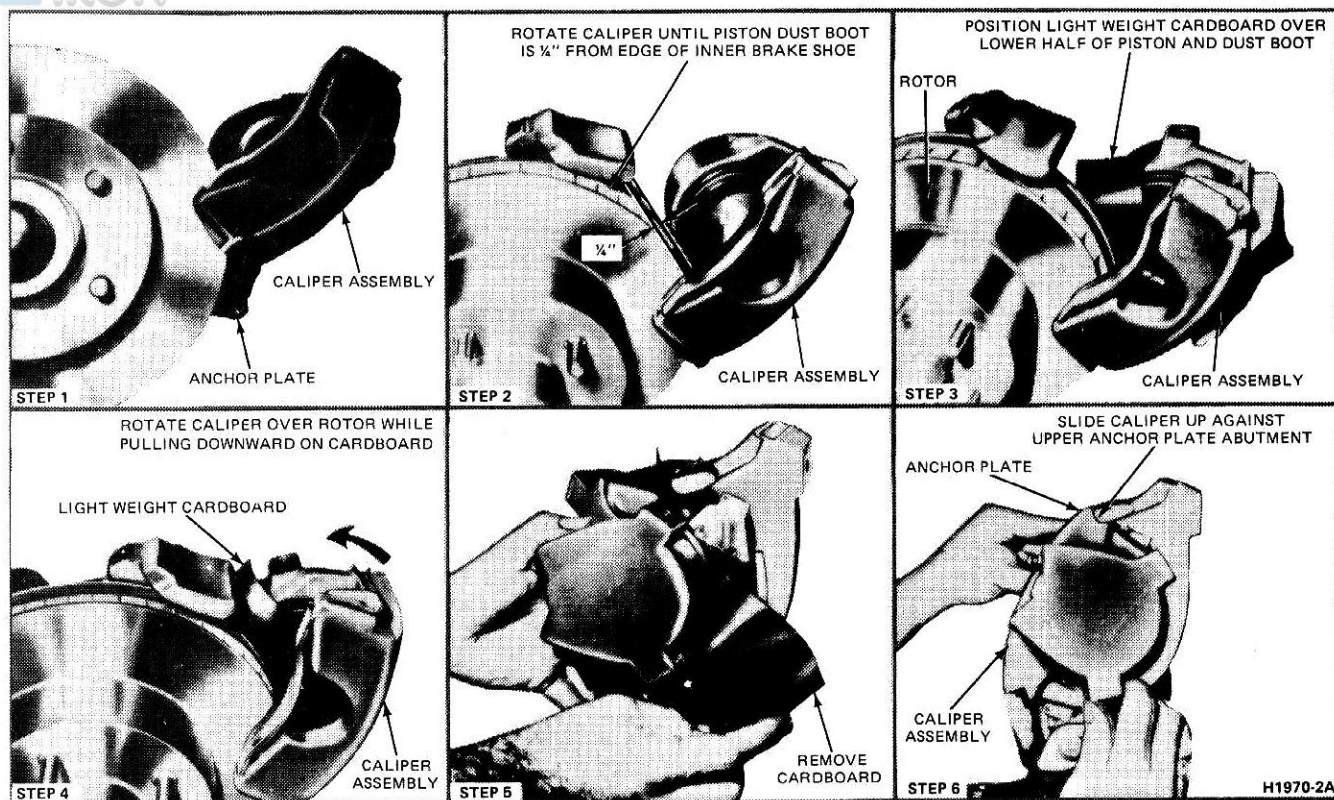

FIG. 9 Installing Front Caliper Assembly—Except Fairmont/Zephyr
5. Install the outer brake shoe with the lower flange ends against the caliper leg abutments and the brake shoe upper flanges over the shoulders on the caliper legs (Fig. 9). The shoe upper flanges fit tightly against the shoulder machined surfaces. If the same brake shoe and lining assemblies are reused, be certain the shoes are installed in their original positions as marked for identification prior to removal.
6. Position the caliper housing lower V-groove on the anchor plate lower abutment surface (Fig. 9, Step 1).
7. Pivot the caliper housing upward toward the rotor until the outer edge of the piston dust boot is approximately $\frac{1}{4}$ inch from the upper edge of the inboard brake shoe (Fig. 9, Step 2).
8. To prevent pinching the dust boot between the piston and the inboard shoe during caliper installation to the rotor and anchor plate, position clean light-weight cardboard between the inboard brake shoe and over the lower half of the piston dust boot (Fig. 9, Step 3).
10. Pull the cardboard downward toward the rotor centerline while rotating the caliper over the rotor (Fig. 9, Step 4).
11. Remove the cardboard and rotate the caliper completely down over the rotor (Fig. 9, Step 5).
12. Slide the caliper up against the anchor plate upper abutment surfaces and center the caliper over the lower anchor plate abutment (Fig. 9, Step 6).